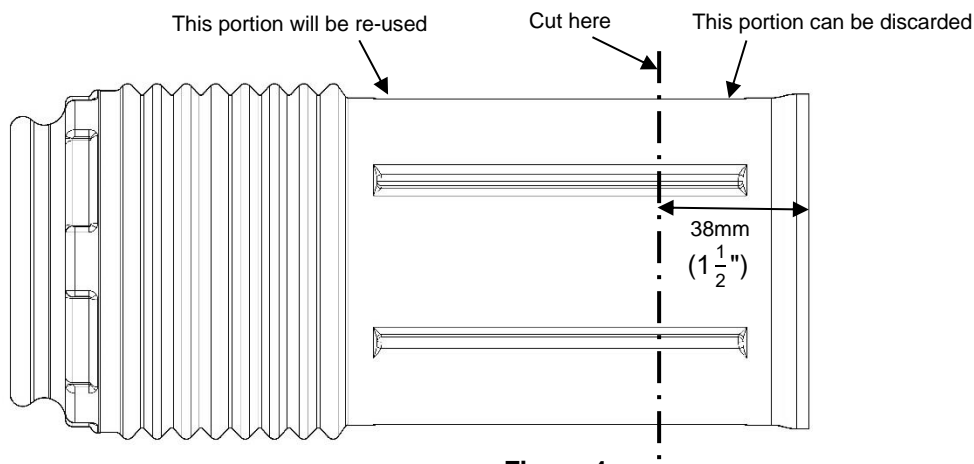

Figure 4
- F. Using scissors, cut 38mm ($1\frac{1}{2}$ ") from the bottom of the boot. Refer to Figure 4 below.